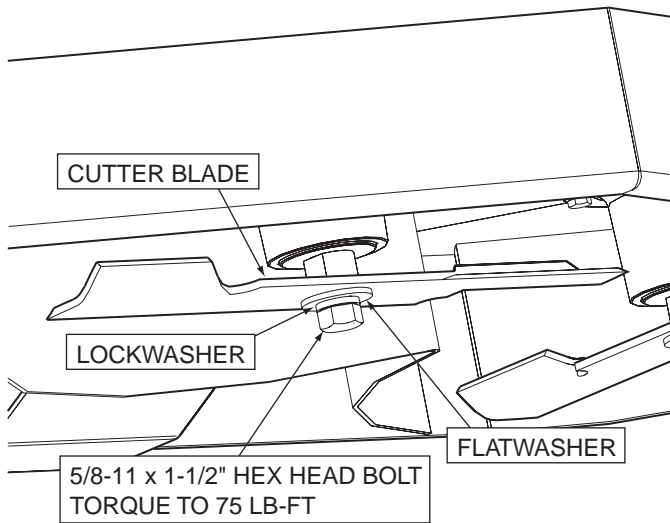

Figure 7-9 Blade Replacement
3. Secure the cutter blades to prevent them from rotating, (Use the optional Blade Buddy tool, P/N 9212, to assist in securing the cutter blades), remove the blade attaching bolt. Remove the cutter blade, bolt, lockwasher and flatwasher from the spindle shaft. (Figure 7-9).
5. Install the cutter blade onto the cutter spindle shaft. Secure the blades from rotating and torque to 75 lbs-ft. (See Figure 7-9).